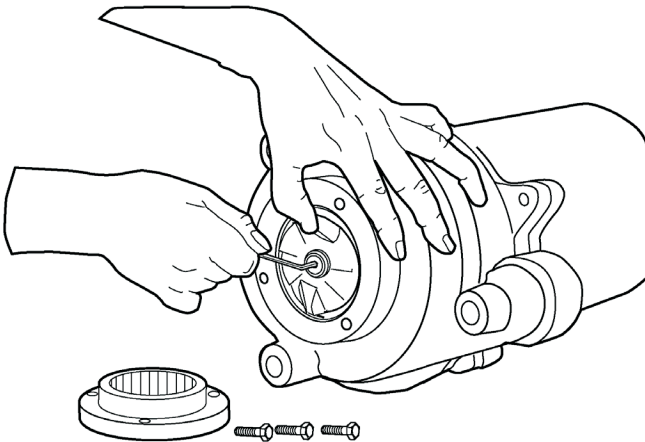

Fig. 2
2. Thread two screws into tapped back-off holes in flange and evenly tighten screws to back grinding ring out of pump housing. See Fig. 2